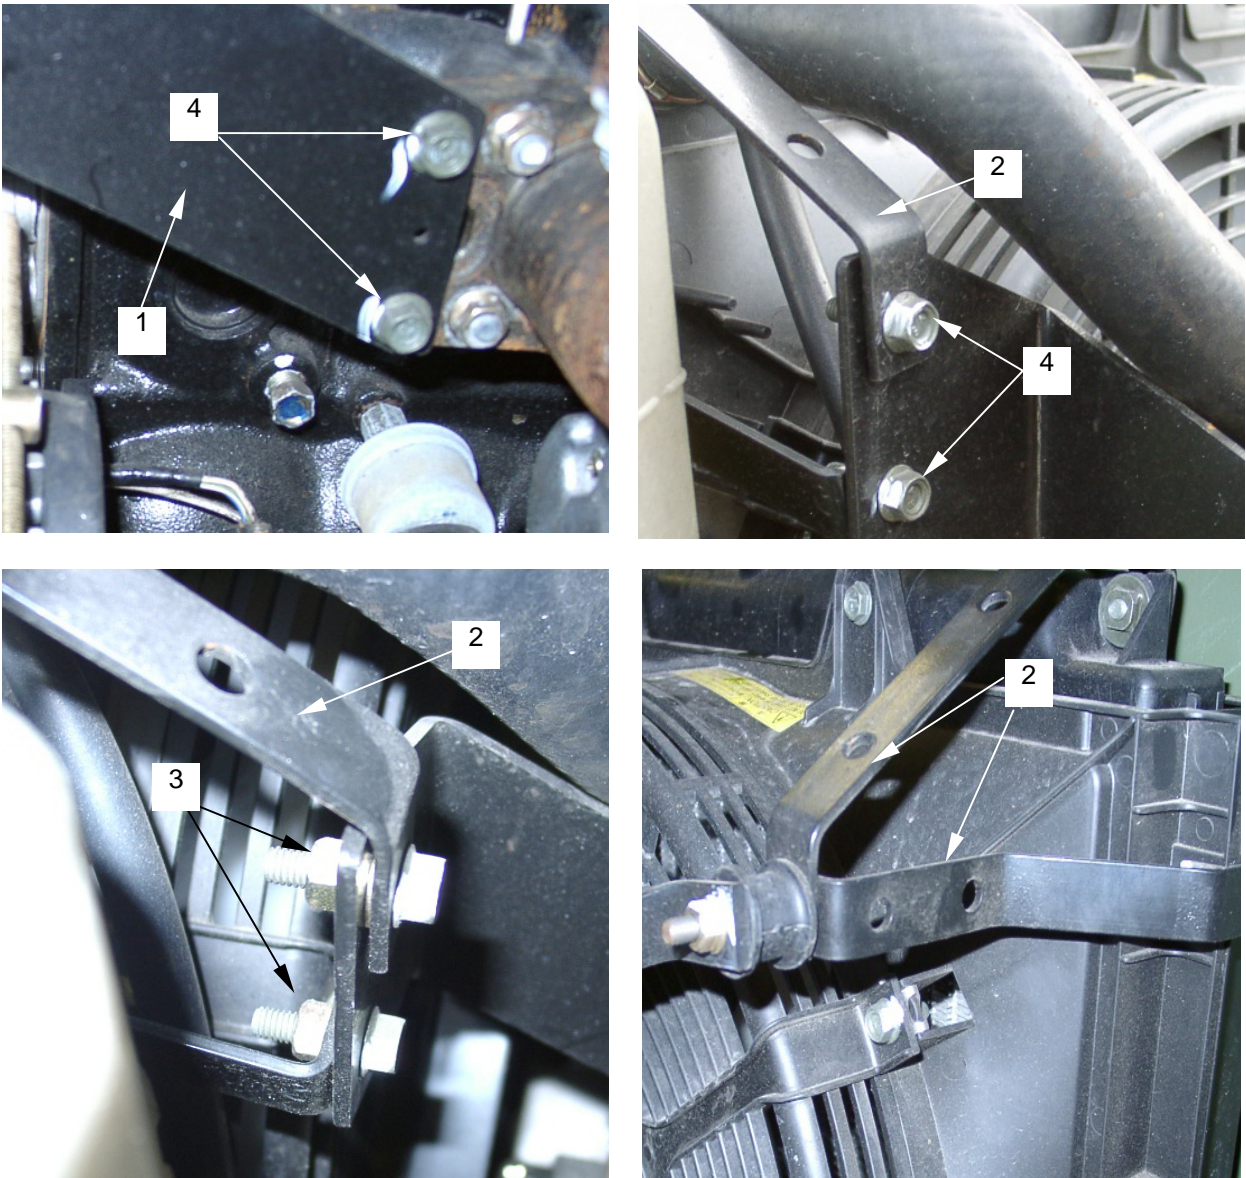

Figure 30. Radiator Brackets
- j. Loosen and remove radiator bracket (**figure 30, item 1**) (**figure 30, item 2**) mounting nuts (**figure 30, item 3**) and bolts (**figure 30, item 4**).